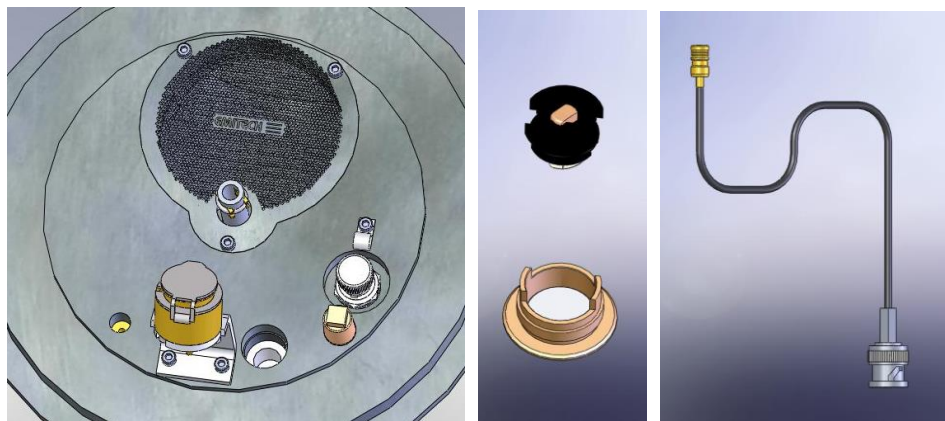

Figure 7-15. FTM (left); replacing the FTM crystal (centre); FTM lead (right)
4. Fit the FTM assembly to the baseplate with two M3 x 8 socket cap screws (see **Figure 7-15**).
The crystal cover (see **Figure 7-15**) may be removed completely for cleaning or if the FTM is in continual use.
5. Unscrew the top cap of the crystal holder and withdraw (see **Figure 7-15**).